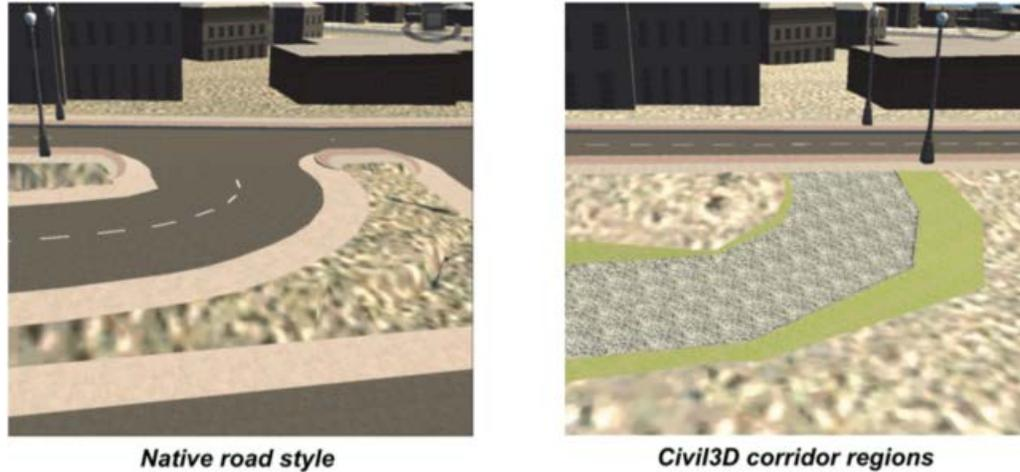
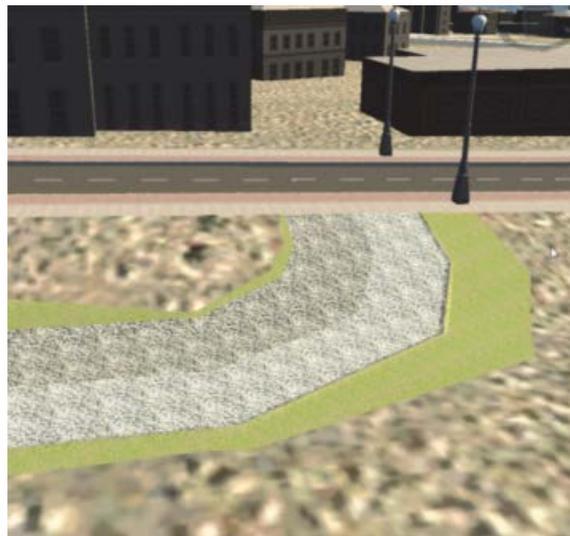

Figure 28
Figure 29
- Use Civil 3D Corridor Regions (instead of native road styles): If the corridor surface is used to stylize the road, the surface becomes a coverage area rather than a road feature. In Figure 28, the road on the left uses the native road styles and on the right it shows the same road using the Civil3D Corridor Regions setting.
- Use corridor regions instead of top surface: This option creates a more detailed display of the road surface. The detail is sharp enough to display curbs, medians and other raised or lowered areas more clearly. Figure 29 shows the road that is shown on the right in Figure 28, but with both Road Options selected.